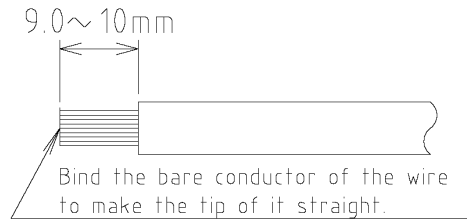

FIGURE 2-30
- a. Refer to **Figure 2-30**. Strip approximately 9.0 ~ 10.0mm of insulation by using the appropriate wire stripping tool for a 6mm² wire.